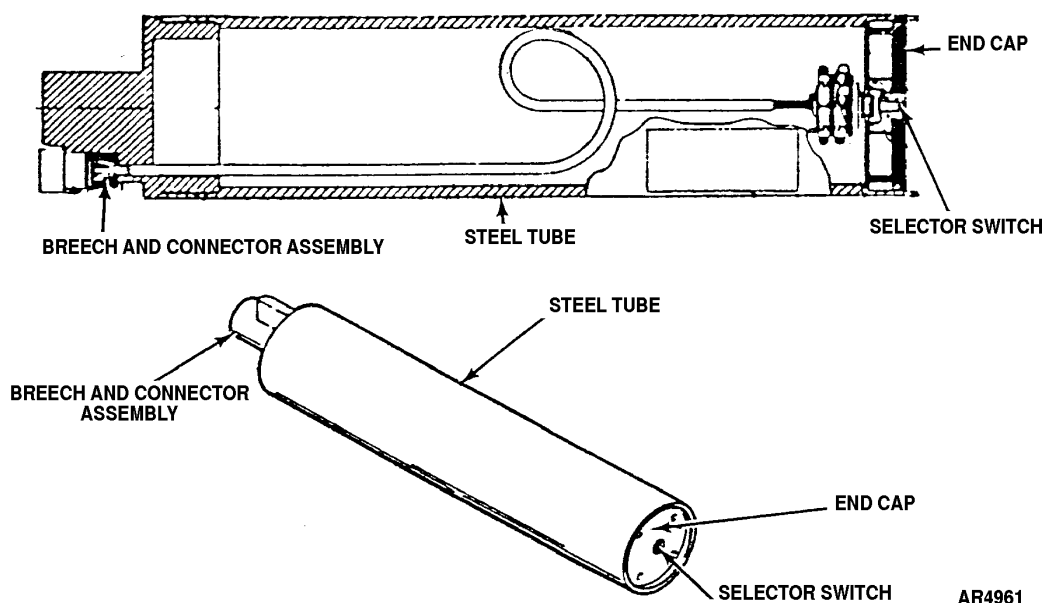

Figure 1-21. Canister, mine, training: M89.
(1) The M89 Training Canister (fig. 1-21) is a reusable, totally inert canister. The major components of the canister are a breech and connector assembly, a heavy wall tube, an end cap, a switch mounting plate, a rotary four position switch, resistors, and fuse. The M89 Training Canister is physically comparable to the M87 and M88 canisters and is capable of inducing faults into VOLCANO system via the four position switch. The canister is painted in blue.
(2) The M89 Training Canister sends electrical signals to the Dispenser Control Unit (DCU) for simulating the following conditions depending on the switch position setter: